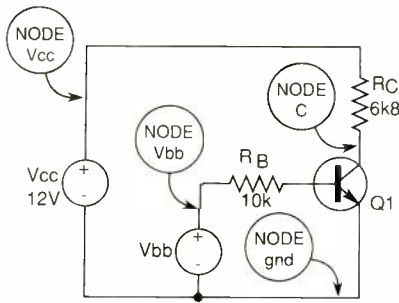

Fig. 1. Simple simulation of a common-emitter amplifier is useful for illustrating how altering the circuit parameters affects dc conditions.
**E**xamining the behaviour of a common-emitter amplifier, Fig. 1, under various quiescent conditions gives us the chance to become more familiar with some of the basic procedures available in *SpiceAge for Windows*.
In the case of Fig. 1, the equation for base-emitter voltage  $V_{be}$  is exponential and the program is unable to produce a solution. It needs to be helped along by having the equations presented to it in the order that will allow it to proceed step-by-step to the solution. With such small steps there is little point in using *Mathematica*. A scientific calculator will do the job just as well. However, I will take this opportunity to look more closely at the syntax and some other features of the program.